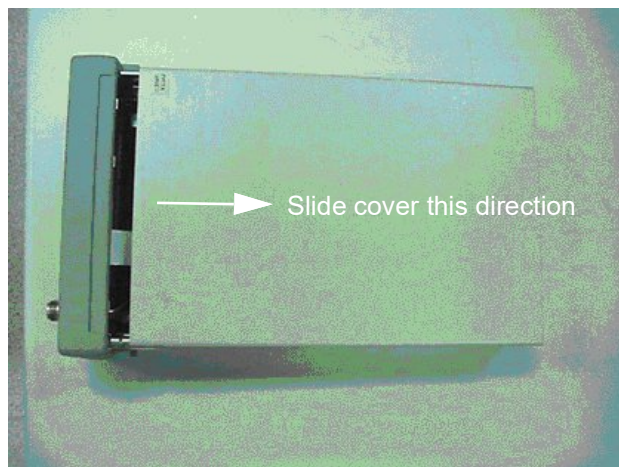

Figure A-3 Remove the power meter cover
- 3** Remove the power meter cover. To remove the cover, slide it open as shown in Figure A-3.